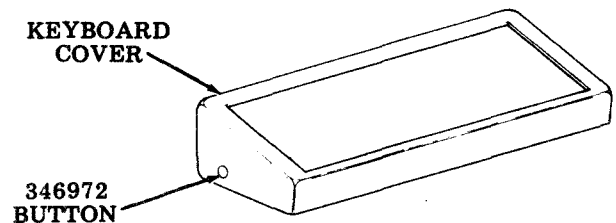

Fig. 14
③ Install the mounting screw (in the repositioned subassembly) removed in ① of 3.10.
④ Reassemble side frame by reversing the procedure of ③ of 3.06. Reassemble rear cover plate, metal pan, and bracket removed in ① and ② of 3.06. Install metal pan so that right ear of bracket that mounts SSI connector is visible. Install bracket so that the ear is not visible (use the longer screws).
⑤ Remove the 346972 button from the left side of the keyboard cover shown in Fig. 14 and reassemble cover to keyboard by reversing the procedure in 3.05.
⑥ Reassemble keyboard to table or base by reversing the procedure in 3.02 or 3.03 as applies.